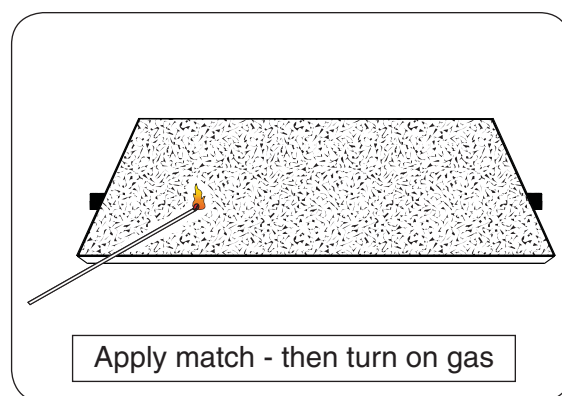

Fig. 17-1
3. Lay a lighted long-stem match on the center of the pan above the main burner (**do not hold the match in your hand**) or use a lighted long-necked butane lighter (Fig. 17-1).